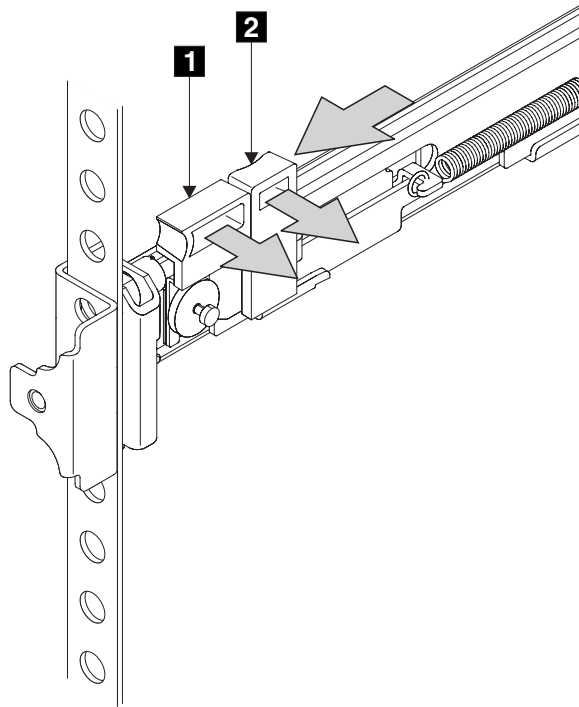

Figure 129. Closing the latch-lock carrier assembly
13. Push the latch lock **2** (Figure 129 on page 211) away from the rail to release the carrier. The latch-lock carrier slides toward the front of the rack, and the locating pins project through the holes that are in the front flange and in the front rail bracket.